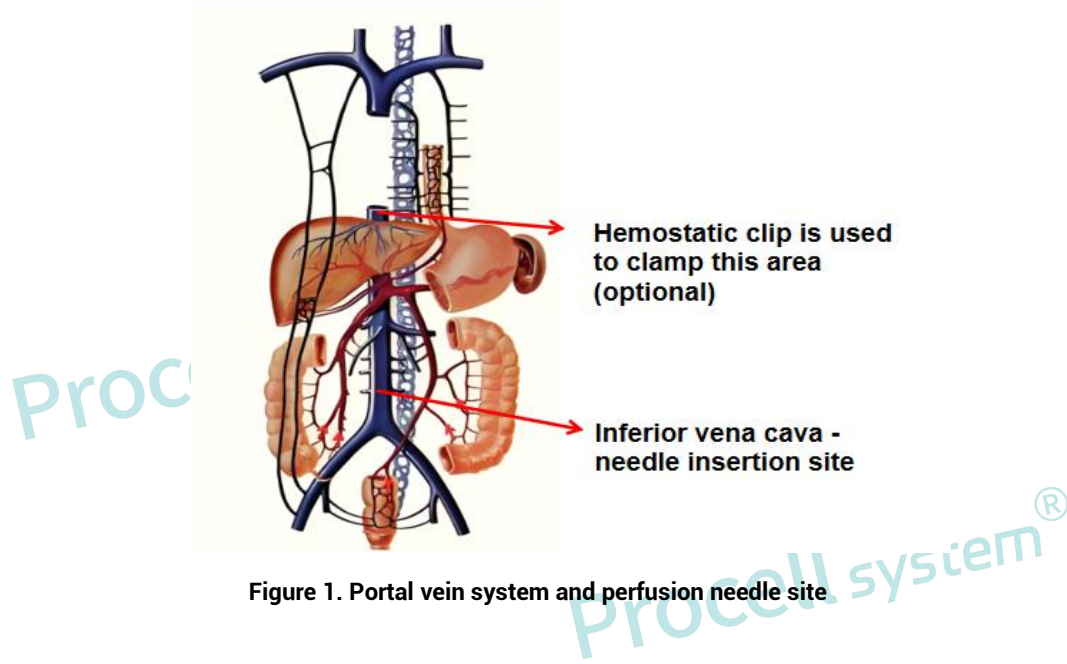

Figure 1. Portal vein system and perfusion needle site
① Preparation: Place two clean culture plates in the ultra clean bench. Arrange sterilized scissors and forceps in pairs from left to right on two clean culture plates (Ophthalmic Scissors 1 and Straight Forceps 1, Ophthalmic Scissors 2 and Straight Forceps 2, Curved Forceps 1, Curved Forceps 2, and Curved Forceps 3).
② Dissection: First, incise the rat skin along the midline of the abdomen with Ophthalmic Scissors 1. Lift the skin along the incision site with Straight Forceps 1, and use Ophthalmic Scissors 1 to cut open the skin horizontally towards the limbs. Bluntly dissect the skin and subcutaneous tissue toward both sides to expose the superficial muscle layer of the abdominal wall. Continue to use Straight Forceps 1 to pull the skin to both sides and peel it down below the abdomen. Then use Ophthalmic Scissors 2 to incise the diaphragm of the rat abdomen, and use Straight Forceps 2 to gently retract the diaphragm down below the abdomen.
**Note: (Optional Operation)** After incising the abdominal diaphragm, proceed to incise the thoracic diaphragm along the upper edge of the liver. Find the inferior vena cava above the liver and clamp the vein at this site with a hemostatic clip (Figure 1). This step allows the subsequent digestive solution to fully flow through the liver tissue and exit through the hepatic portal vein, improving digestion efficiency. If it is not possible to accurately locate the inferior vena cava above the liver and promptly complete the subsequent steps, please ignore this step.
① **Peristaltic Pump Perfusion**
- a. Lift up the outer lobe of the rat liver using Curved Forceps 1 and push the intestinal tissue to the right, exposing the inferior vena cava and hepatic portal vein of the rat (a pipette tip can be placed under the rat to fully expose the inferior vena cava). Take a perfusion needle (exhaust all air) and connect the inlet end of it to a centrifuge tube or bottle containing Pre-perfusion Solution For Rat Hepatic Parenchymal Cells. The needle should be parallel to the inferior vena cava, with the oblique plane of the needle pointing upwards. Insert it into the inferior vena cava (the injection position is shown in Figure 1), and insert the needle tip above the bifurcation of the blood vessel. Fix the perfusion needle and use other auxiliary materials (such as syringe needles) to keep the needle still and avoid puncturing the blood vessel. Gently pull out the needle core, then the blood in the blood vessel can be seen to flow out with the needle core. At this time, the outer tube is left in the blood vessel for perfusion.
- e. Lift up the outer lobe of the rat liver using Curved Forceps 1 and push the intestinal tissue to the right, exposing the inferior vena cava and hepatic portal vein of the rat (a pipette tip can be placed under the rat to fully expose the inferior vena cava). Take the perfusion needle (exhaust all air) which has been connected to the syringe containing Pre-perfusion Solution For Rat Hepatic Parenchymal Cells. The needle should be parallel to the inferior vena cava, with the oblique plane of the needle pointing upwards. Insert it into the inferior vena cava (the injection position is shown in Figure 1), and insert the needle tip above the bifurcation of the blood vessel. Fix the perfusion needle and use other auxiliary materials (such as syringe needles) to keep the needle still and avoid puncturing the blood vessel. Gently pull out the needle core, then the blood in the blood vessel can be seen to flow out with the needle core. At this time, the outer tube is left in the blood vessel for perfusion.